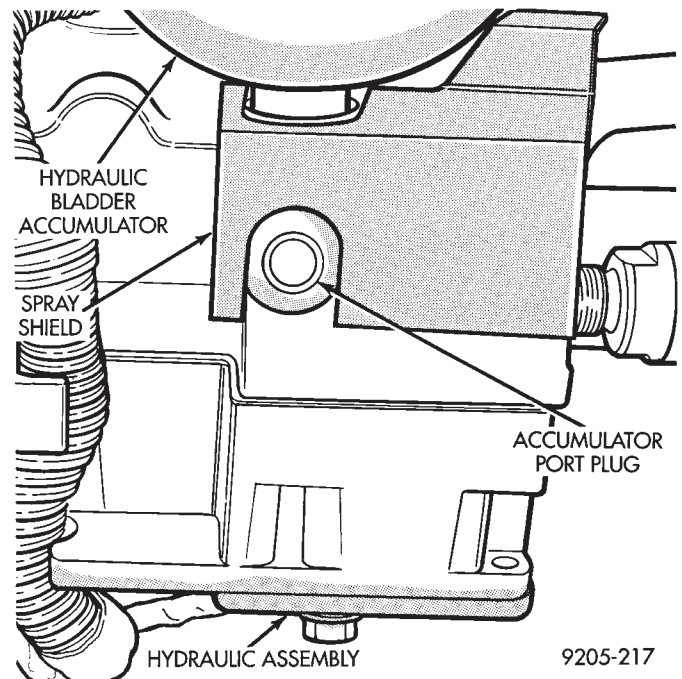

Fig. 4 Hydraulic Assembly Accumulator Port Plug Location
(6) Remove hydraulic assembly accumulator port plug, located on right hand side of hydraulic assembly (Fig. 4).